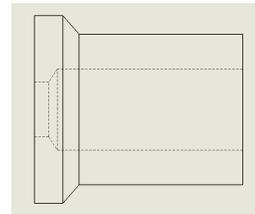

Figure 6
- See OEM manual for pivot assembly removal instructions, noting use of HD special tools. Keep the bearings - to be installed later. See Figure 6
- Modify Outer Spacers by machining or drilling outer spacers to match large ( $\frac{3}{4}$ "") bore as shown. Ensure spacers slide freely over full length of pivot shaft. See Figures 6 and 7